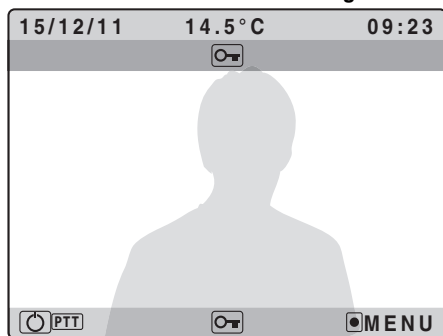

Fig.3b
- To open the door press the button Fig.3b;